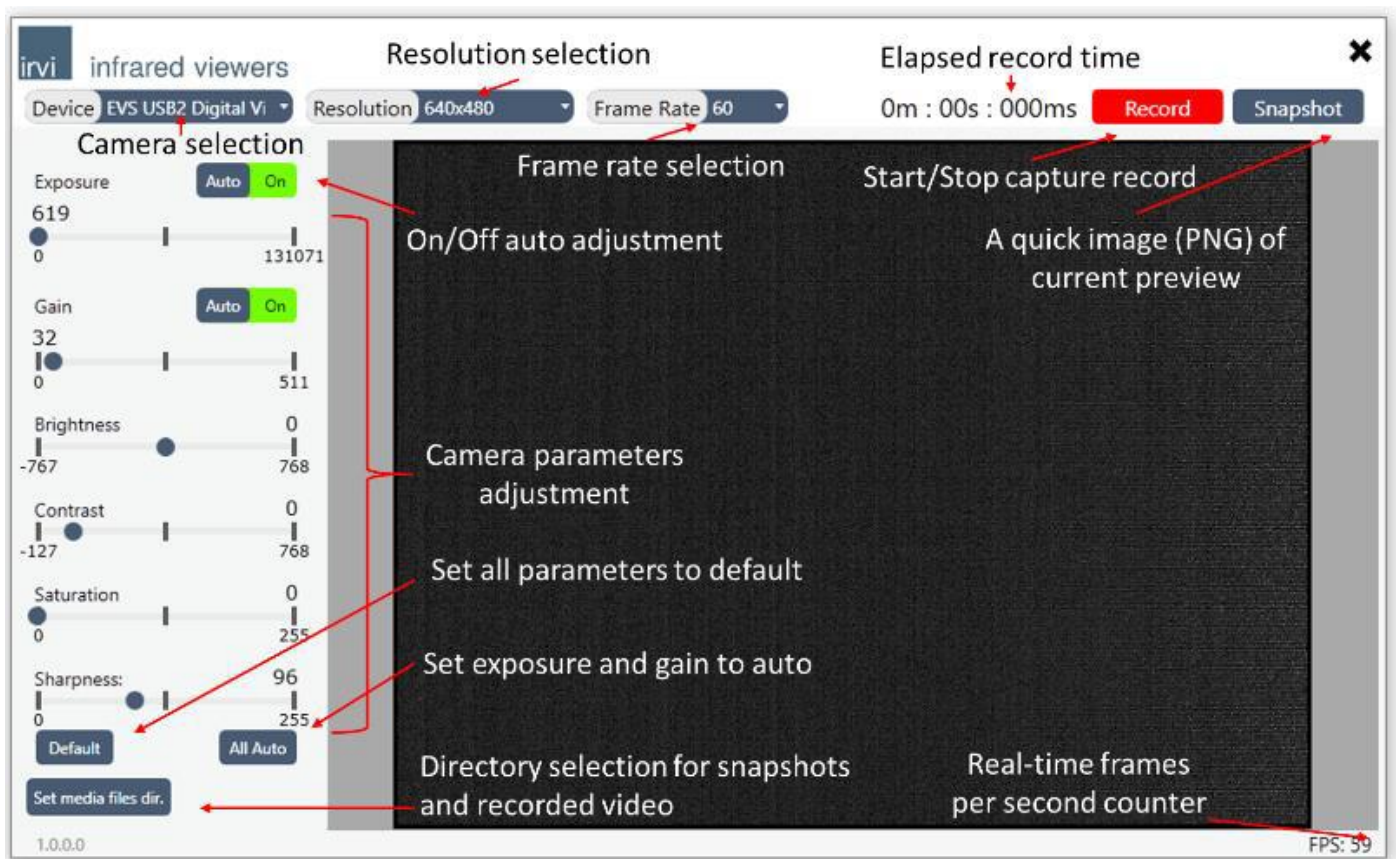

Figure 3. Software controls description.
3. Use the software provided functionalities shown in Fig. 3 to suit your application needs.